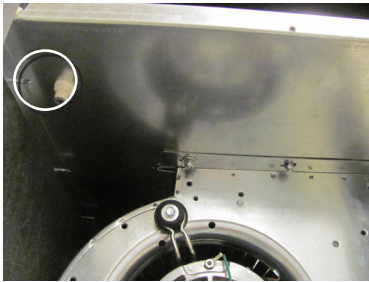

Fig. 6a
6. Drill hole in the center plate of the air handler, for the provided bulkhead fitting. (Figs. 6a, 6b)